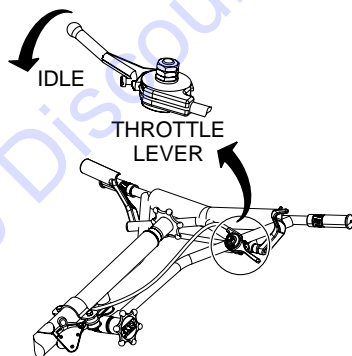

Figure 28. Throttle (Idle Position)
3. Push the **throttle lever** (Figure 28) in the "idle" position.